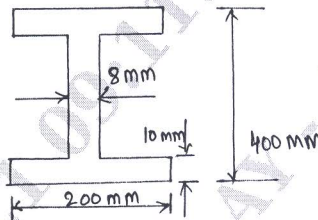

Fig.Q8(a)
- 8 a. The C/S of a beam is shown in Fig.Q8(a). If permissible stress is 150 N/mm². Find its moment of resistance. Compare it with equivalent section of the same area for a square section.